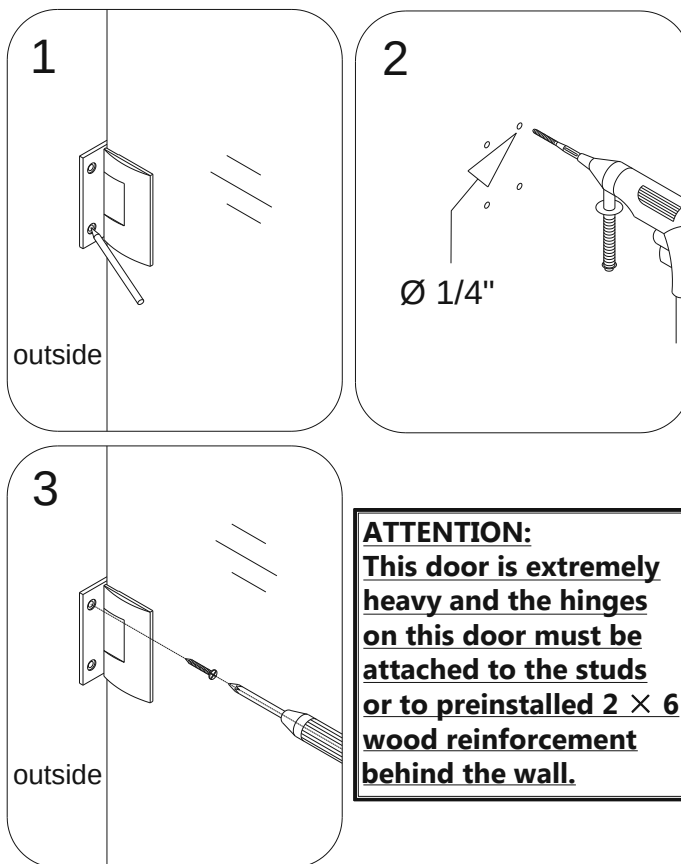
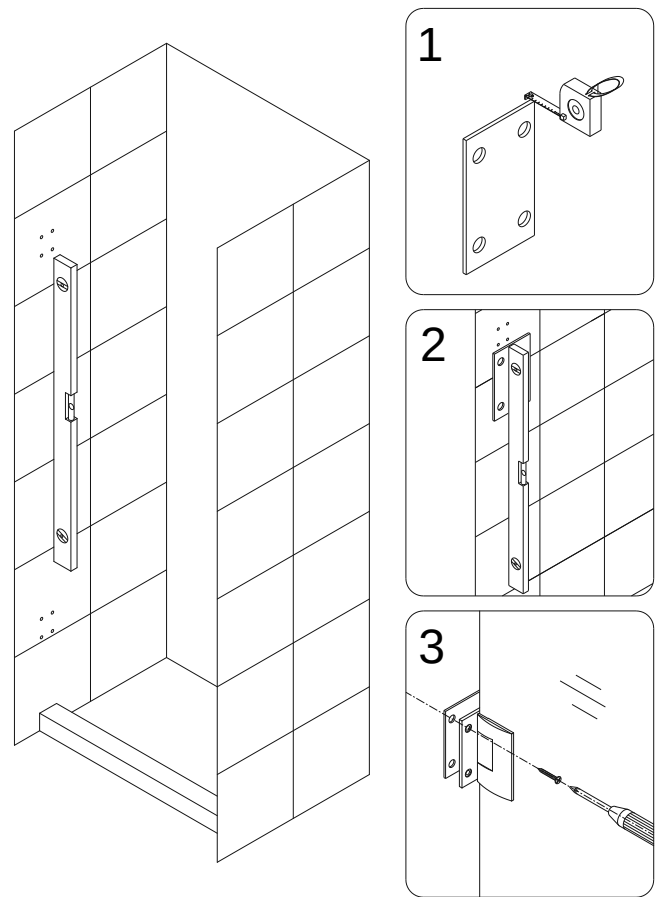

Fig. 3
Fig. 4
The included PVC hinge spacers (31) are provided to compensate for minor out-of-plumb wall conditions. Use only as needed as their use could compromise the opening size of your shower. Please see Fig 4 for an installation example.
See Fig. 3 and Fig. 4 for details.